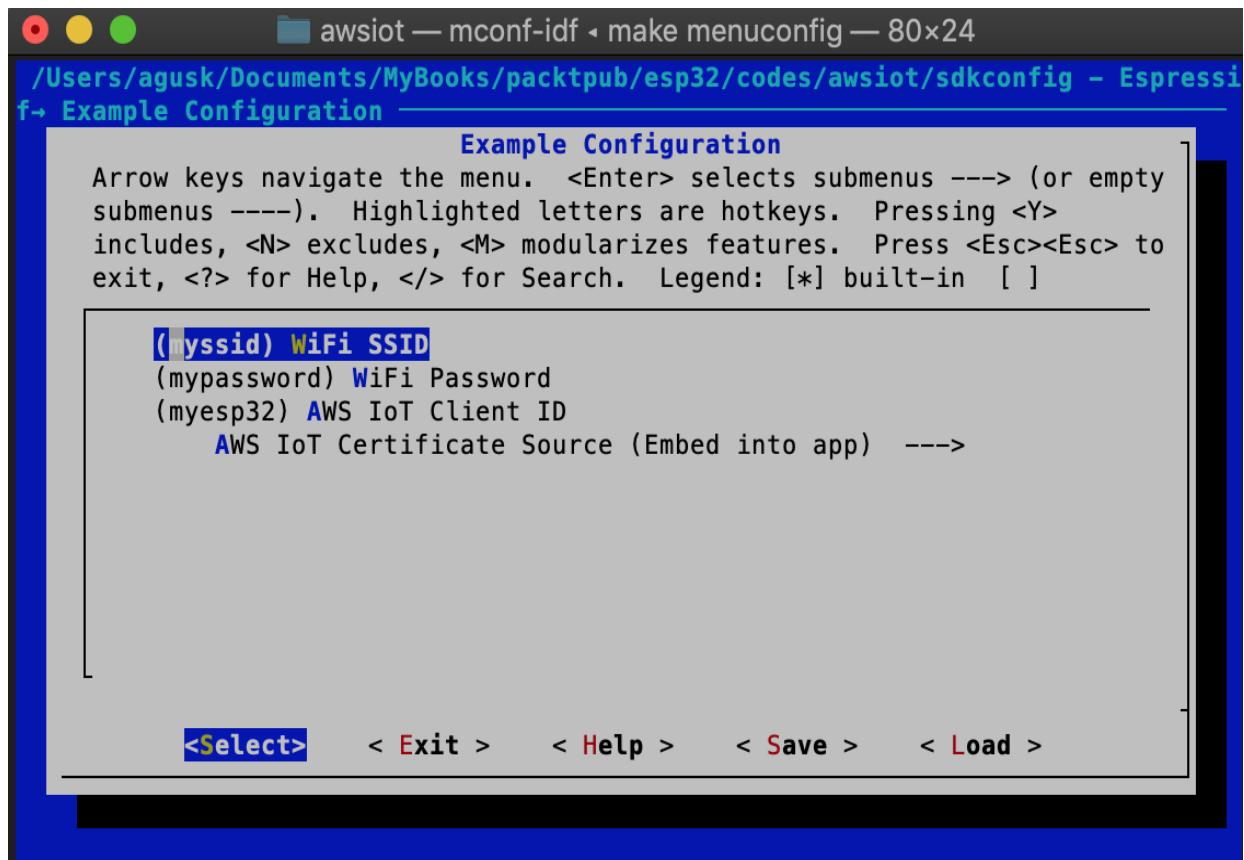

Figure 10.12: Configuring the Wi-Fi and AWS IoT Client ID
4. Then, you will get a dialog box as shown in *Figure 10.12*.
8. You can navigate to AWS IoT Certificate Source to generate the certificates, as shown in *Figure 10.12*.